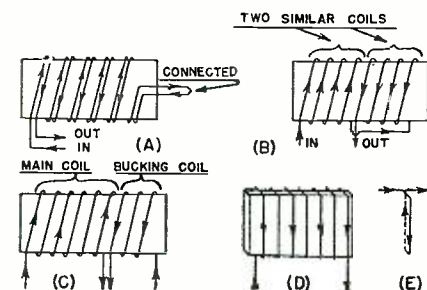

Fig. 2.
ways of winding a coil containing a large number of turns of wire so that it will be non-inductive, is to wind the wire double, as shown at (A) of Fig. 2, then connect the two starting ends together. Since the current then flows in opposite directions in the two wires, as indicated by the arrows, the magnetic effects produced by the current flowing through one wire are exactly